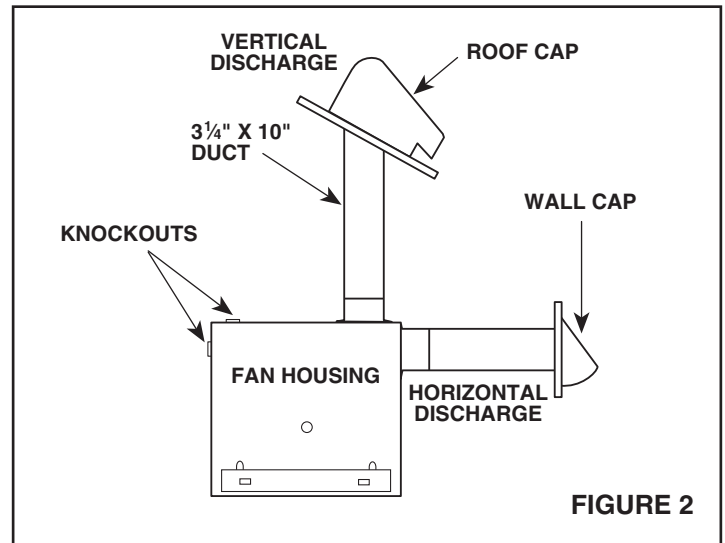
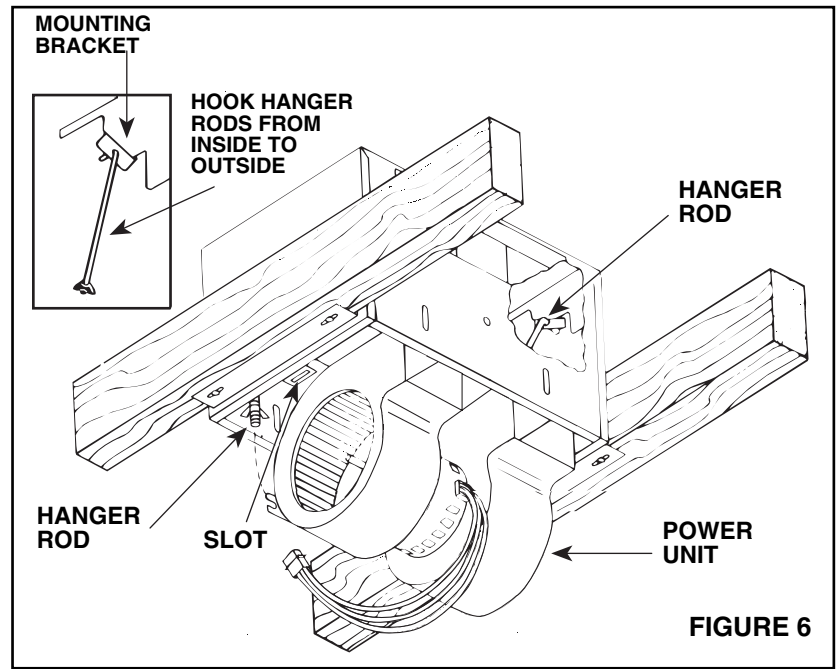

FIGURE 2
FIGURE 6
- Refer to Figure 2. This unit can be ducted for either vertical or horizontal discharge. Determine the method of discharge that will be used.
3. **Refer to Figure 2** and mounting instructions included with caps. Install standard 3 1/4" x 10" ductwork from damper section to outside wall or through roof and mount appropriate wall or roof cap (optional).
1. **Refer to Figure 6.** The Power Unit mounts with two hanger rods to the mounting brackets. Insert the hanger rods through the holes in the mounting bracket.
**WIRING AND DUCTING** – Refer to **Figure 6 for wiring** and to **Figure 2 for ducting**. Plan ducting and wiring before proceeding with installation.